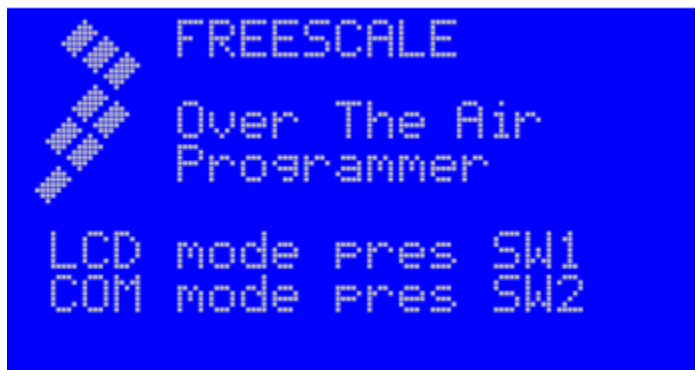

Figure 10-16. OTAP Programmer Main LCD Screen
1. Press the Reset button on the OTAP Programmer Board. The main screen appears as shown in Figure 10-16.